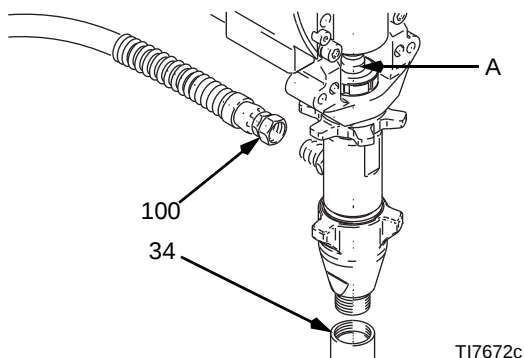

FIG. 15
3. FIG. 15. Cycle pump piston rod (A) to lowest position.
4. FIG. 15. Remove suction tube (34) and hose (100).